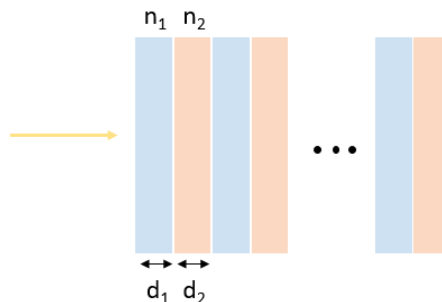

Figure 6: A Bragg reflector consist of two alternating layers.
- Figure 6 is a Bragg reflector, which is made of two alternating thin film layers. Develop a transfer matrix method to calculate the reflectivity of the multilayer for normal incident and for a photon energy range $1.2\text{eV} - 4.1\text{eV}$. Plot the reflectivity for different number of layer pairs: 2,5,10,20. The refractive index of the two layers is $n_1 = 3$ and $n_2 = 3.5$, respectively. The thickness is $d_1 = 41.7\text{nm}$ and $d_2 = 35.2\text{nm}$, respectively. Again, assume vacuum on both sides.